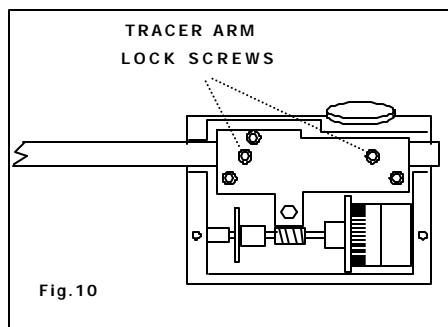

Fig. 10
- Measure the test area and multiply result (N) by your u-value.
- Subsequently, slightly loosen the two tracer arm lock screws on the bottom of the planimeter (Fig.10). Lengthen or shorten the arm length depending on the result obtained before . Measure again, etc. Repeat until result is ok. Secure lock screws again.